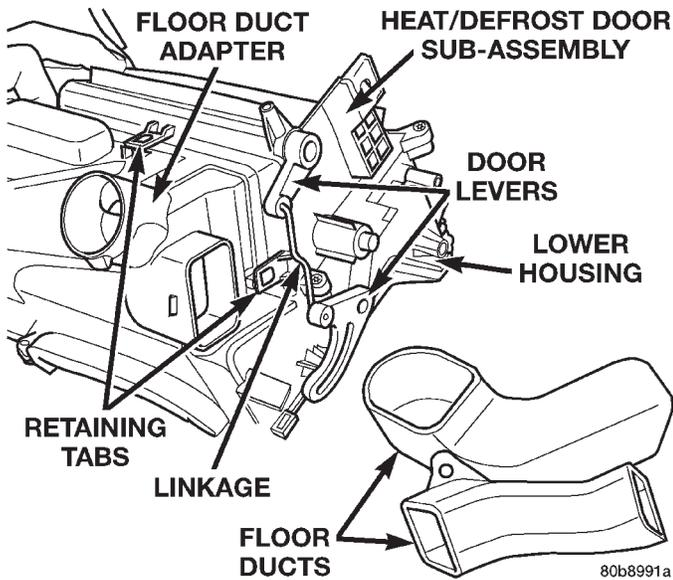

Fig. 39 Floor Ducts (Housing Removed)
- (1) To remove the driver side floor duct from the vehicle, remove the knee blocker panel for access to attaching screw. See Instrument Panel Assembly in Group 8E - Instrument Panel Systems for the procedures.
- (2) The passenger side floor duct fastener can be accessed under the right-center instrument panel.
- (3) Remove the screw that secures the floor duct(s) to the HVAC housing (Fig. 39).
- (4) Reverse the removal procedures to install. Tighten the mounting screws to 2.2 N·m (20 in. lbs.).